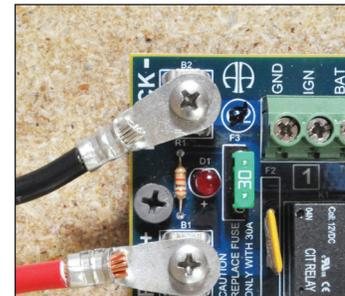

Figure 20. Tighten screws to avoid contact with metal case\*.
4. Now, connect the red and black wires to the next 914X or 917X in the system, making a "daisy-chain" until the last 914X or 917X is connected (Figure 20).